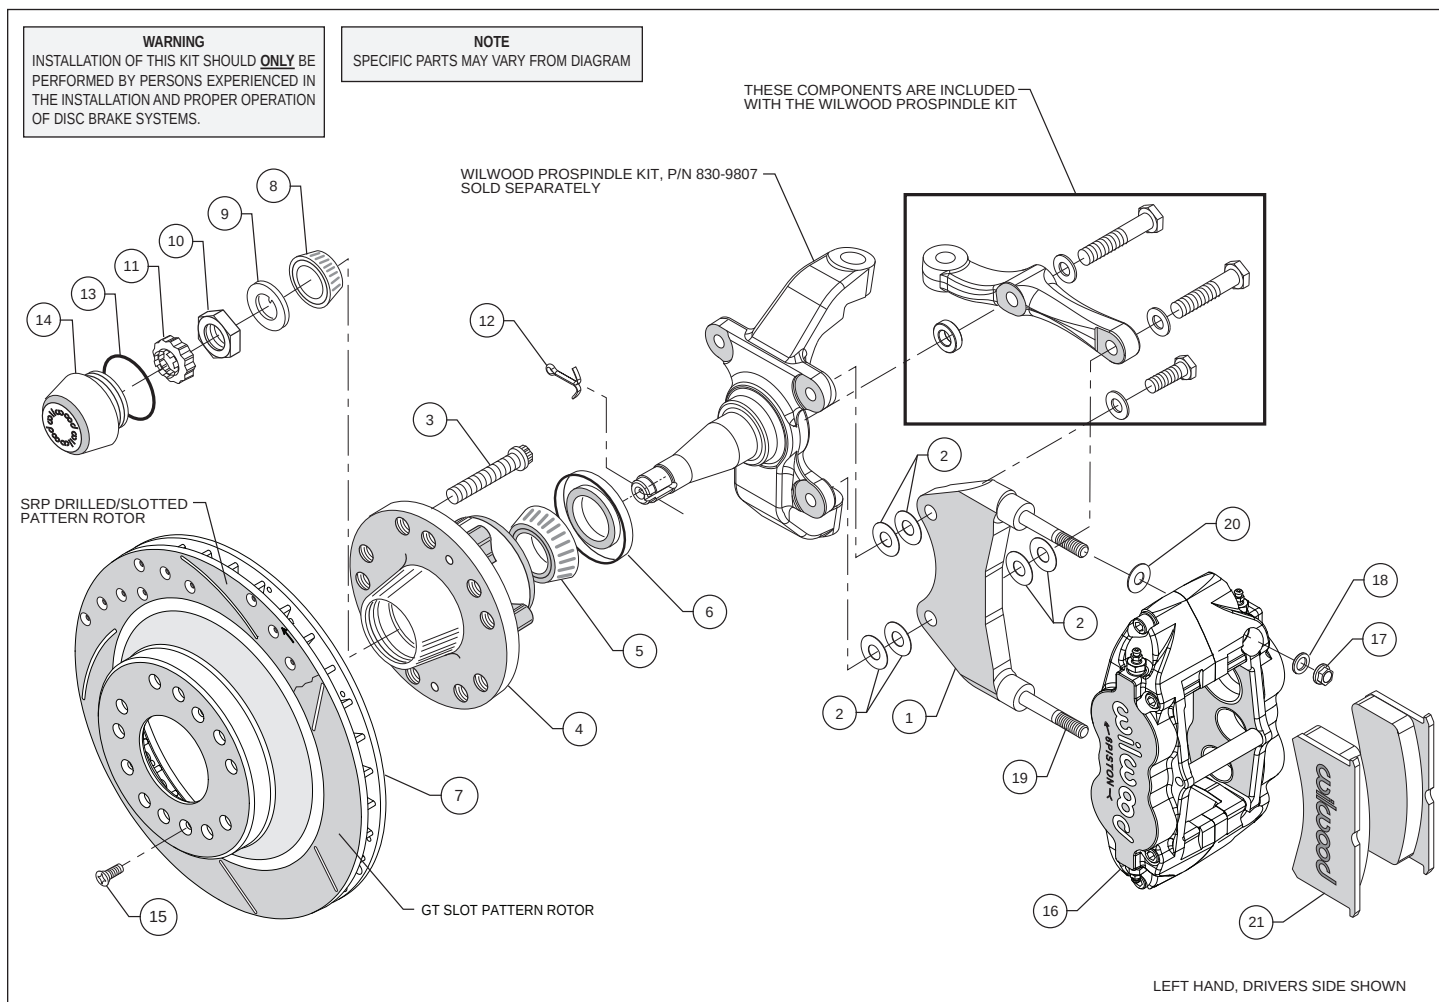

Figure 1. Typical Installation Configuration
Assembly Instructions (numbers in parenthesis refer to the parts list on the preceding page, and Figure 1): Rear hole refers to the part of the spindle that would be facing the back of the vehicle, front is facing the front of the vehicle.
•The caliper mounting bracket assembly (1) in conjunction with the Wilwood ProSpindle (P/N 830-9807, includes three mounting bolts, three washers, and a spacer, kit sold separately) should be installed first with clean, dry threads on the mounting bolts. Reference Figure 1, install the bracket on the inboard side of the spindle by sliding the 1.25" long bolt from the ProSpindle kit through a flat washer, also from the ProSpindle kit, through the top hole of the caliper mounting bracket (1) and into the upper rear spindle mounting ear hole, do not tighten at this time. Use two thin shims (2) between the bracket and spindle during initial trial fitting. Slide the 2.00" long bolt from the ProSpindle kit through a flat washer, through the rear (thinner end) hole on the steering arm, through two shim washers (2), through bottom hole of mounting bracket (1), through another two shim washers (2), and finally into the lower rear spindle mounting hole. The bracket (1) is positioned between the steering arm and the spindle for the bottom bolt installation. The bracket and shim washers, for the lower rear mounting must be a thickness of $.550 \pm .010$ ". Again, do not tighten. Finish installing the steering arm assembly by sliding the 2.25" long bolt through flat washer, then through the front (thicker end) hole of the steering arm. Place the .25" thick spacer between the steering arm and the backside of the spindle. Temporarily tighten the mounting bolts. **NOTE:** The bracket must fit squarely against the mount bosses on the upright. Inspect for interference from casting irregularities, machining ridges, burrs, etc. Later, after the caliper alignment has been checked, the mount bolts will be secured using red Loctite® 271.
•Install wheel studs (3) into the hub (4), Photo 1. Torque to 77 ft-lb.
•Screw dust cap (14) into hub (4), Photo 4. Friction created by the o-ring (13) on the dust cap keeps it from unscrewing. **NOTE:** The O.D. of the existing OEM spindle washer may be larger than the I.D. of the dust cap not allowing it to seat against the hub face. Therefore, use the spindle washer (9) supplied with the kit instead of the OEM washer.
•Slide the hat/rotor (7) onto the hub (4) taking care to align the small countersunk holes in the hat with the small threaded holes in the hub. **NOTE:** The hat must fit flush against the hub face or excessive rotor run out may result. Install three flat head screws (15) through the small holes in the hat (7), Photo 4, and torque to 85 in-lb.
•**NOTE:** This kit contains distinct right and left hand calipers that must be mounted in a specific direction, as described below. Lubricate the caliper mounting studs (19) with lightweight oil. Initially place one .035" thick shim (20) on each stud between the caliper and the bracket, as shown in Figure 1 and Photo 5. Mount the caliper (16) onto the bracket (1) using lock nuts (17) and washers (18), Figure 1. Ensure that the caliper is mounted so the largest pistons are at the rotor exit end of the caliper, in relation to the direction of rotor rotation. Temporarily tighten the lock nuts and view the rotor through the top opening of the caliper. The rotor should be centered in the caliper, Photo 6. If not, adjust the caliper mounting bracket (1) by using .016" thick shims (2) placed between the caliper mounting